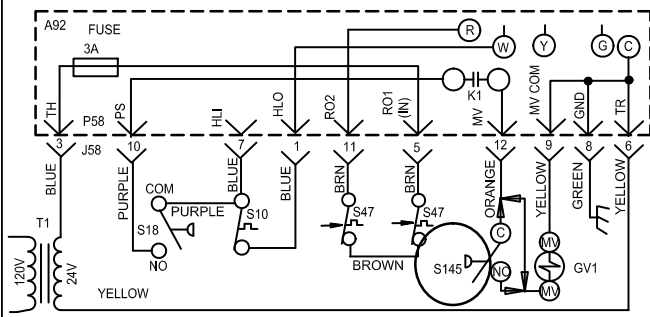

FIGURE 5
- 10 - Thread pressure switch (S145) to brass fitting 2 to 3 turns past hand tight, then wire as shown in figure 5.